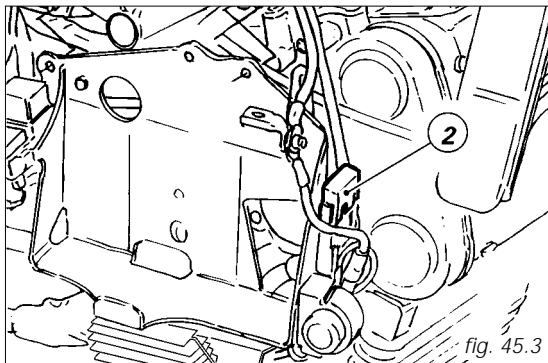

fig. 45.3
The fuse located on a side of the battery (fig. 45.3) protects the electronic regulator. Remove the fuse cap (2) to expose it.